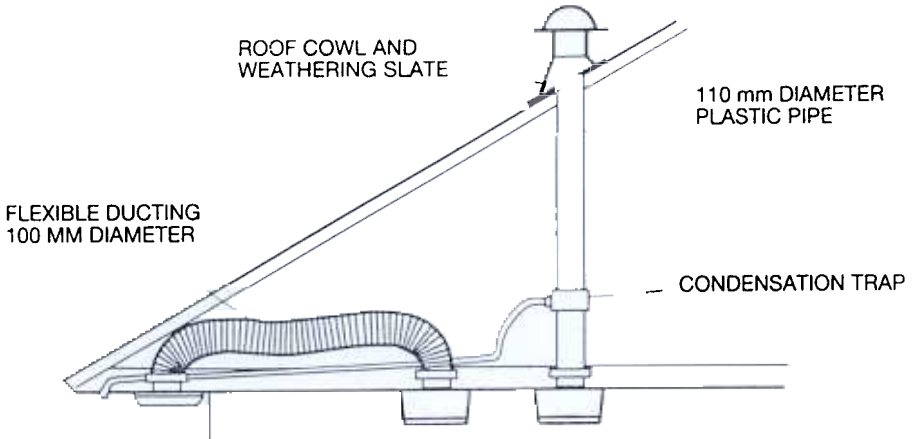

Fig. 12 ALTERNATIVE METHODS OF VENTING THROUGH ROOF
**7.8** Install ducting from the exhaust spigot either through the roof using a weathering slate and roof cowl, or under the eaves using an outlet grille (both available from Airflow), (see Fig. 12).
**8.8** Install ducting in the roof void (see Section 7.8 and Fig. 12).